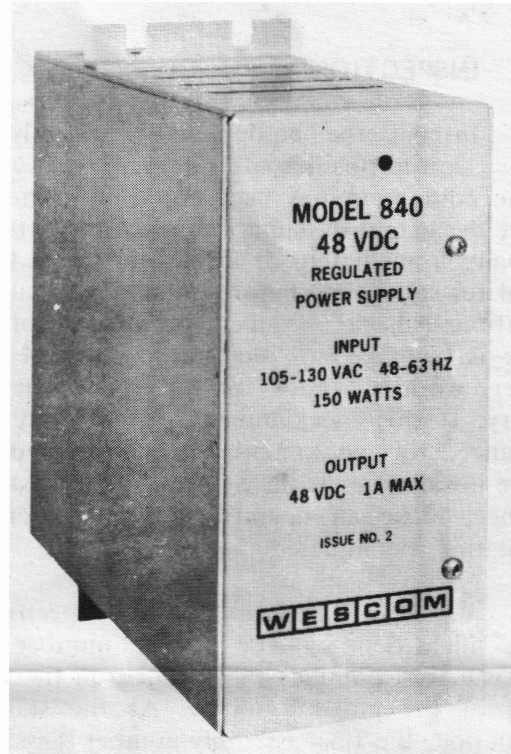

Figure 1. 840 Power Supply
1.02 The 840 Power Supply (Figure 1) is a compact, KTU size unit intended for use where power requirements do not justify a large battery installation. The power supply requires a nominal 117 Vac, 60-Hz, single-phase input and provides a regulated 1-ampere output at -48 Vdc.